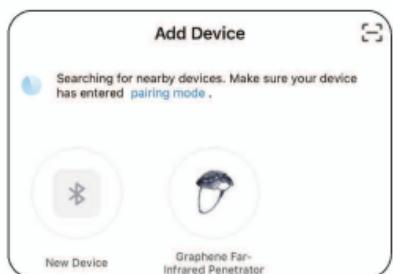
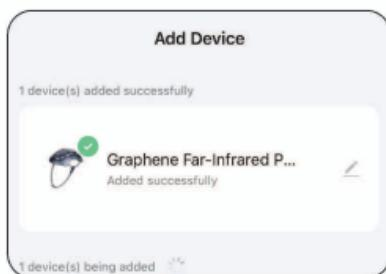

Figure 3
Figure 4
3.2 Click "Add device" after device is paired (Figure 3). This step indicates that the device has been added successfully, and you can control the device on the APP. APP control interface (Figure 4).